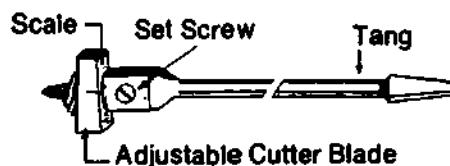

Figure 1-99. Parts of an Expansive Auger Bit
d) Figure 1-99 shows a typical expansive auger bit.